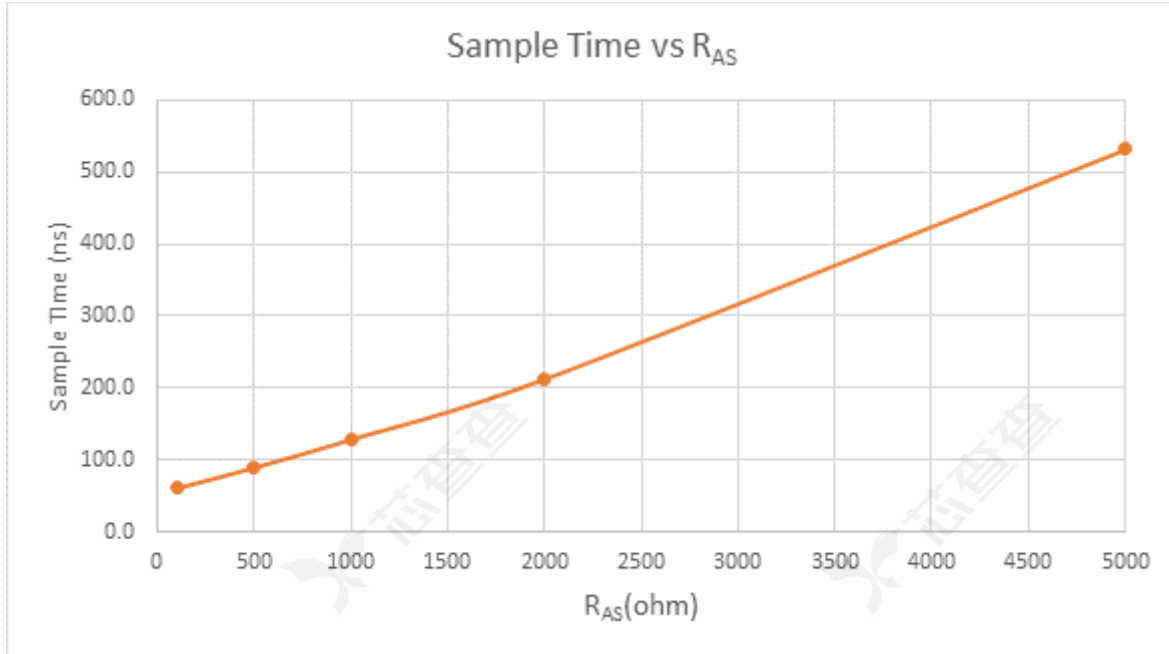

Figure 62. Sample time vs. R_{AS}
³ See Figure 62.
- ³ See Figure 62.